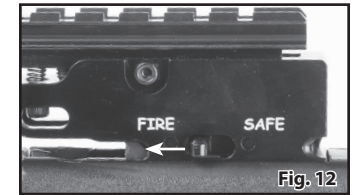

Fig. 12
- Push forward for "FIRE" (Fig. 12)